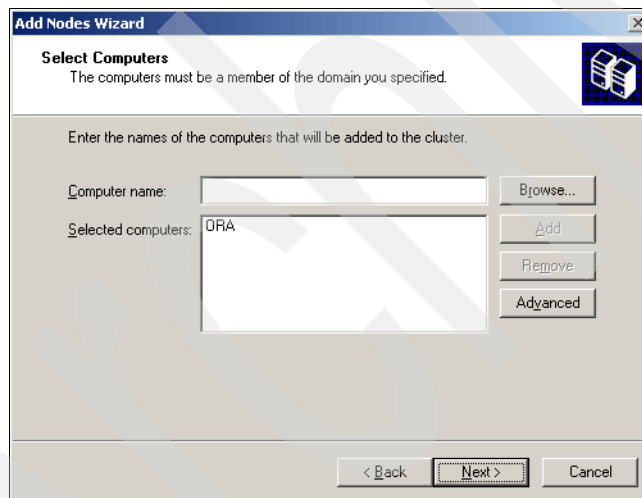

Figure 23-53 Selected computers
4. Add more nodes if required and click **Advanced**. See Figure 23-53.
6. In the Select Computers dialog of the Add Nodes Wizard (Figure 23-53 on page 576), click **Next**.